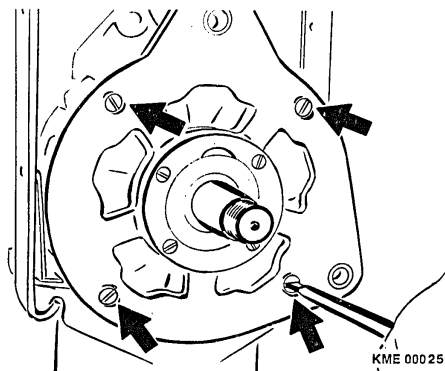

Figure 10 Drive End Shield Removal
1. Loosen and remove the four (4) outer Oval-head screws which hold the end shields together. (Figure 10)